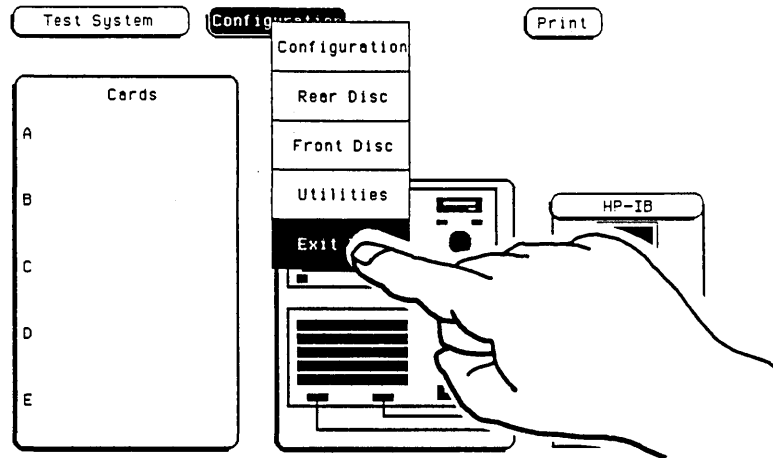

Figure 4-9. Exiting Test System
9. Touch the **Configuration** field. Select **Exit Test** and touch the field in the center of the screen to reload the mainframe operating system (see figure 4-9).